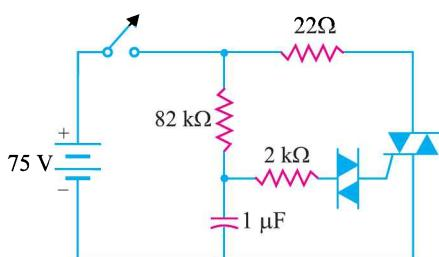

Fig. 21.34
6. In Fig. 21.34, the switch is closed. If the triac has fired, what is the current through the 22Ω ? $[3.41\text{ A}]$